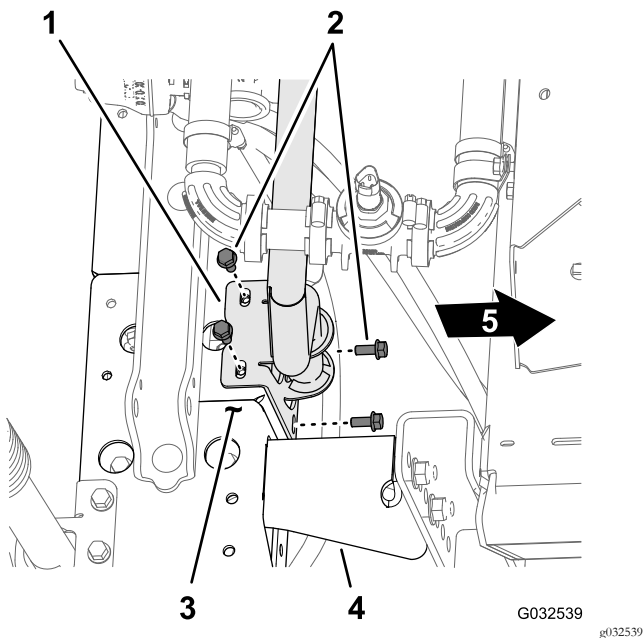
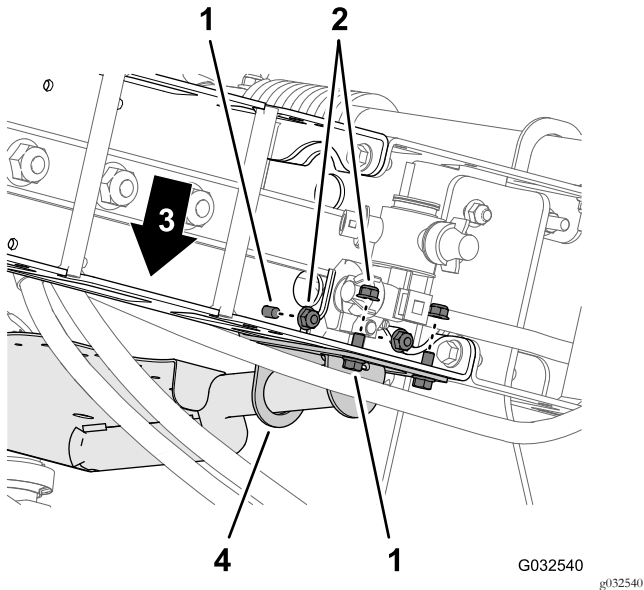

Figure 88
Figure 89
2. Align the holes on the mount bracket of the valve mount to the holes on the truss frame of the center boom section (Figure 88).
3. Assemble the valve mount to the truss frame (Figure 88 and Figure 89) with 4 bolts (5/16 x 3/4 inch) and 4 flange locknuts (5/16 inch).